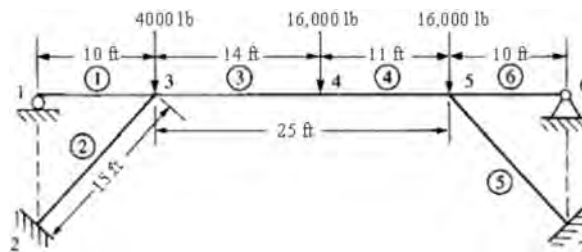

Figure P5-21
- 5.21** For the slant-legged rigid frame shown in Figure P5-21, size the structure for minimum weight based on a maximum bending stress of 20 ksi in the horizontal beam elements and a maximum compressive stress (due to bending and direct axial load) of 15 ksi in the slant-legged elements. Use the same element size for the two slant-legged elements and the same element size for the two 10-foot sections of the horizontal element. Assume A36 steel is used.